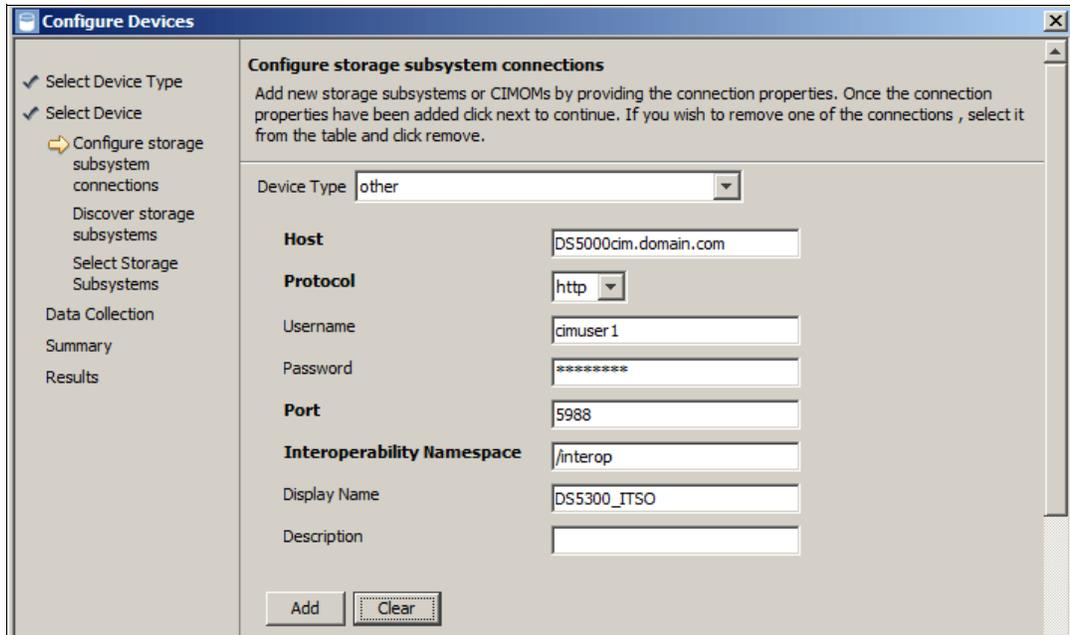

Figure 9-15 Configure storage subsystem connections
4. On the next page (Figure 9-15 on page 377), configuration panel of new storage subsystem is displayed. For DS5000, you need to choose **Other** as Device Type, as it does not use NAPI. TPC uses this information to discover the storage subsystems that are managed by CIMOM. You can then configure those storage subsystems as part of the wizard session. Following configuration fields need to be filled out: